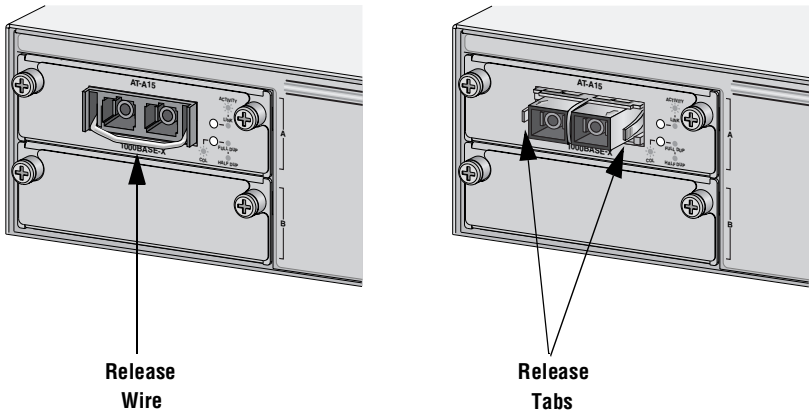

Figure 3 Removing a GBIC Module
2. Release the GBIC module from the AT-A15 expansion module and slide the module out of the expansion slot. You release the module by pulling up on a release wire or by pressing two release tabs on the sides of the module, depending on the module type. Refer to Figure 3.